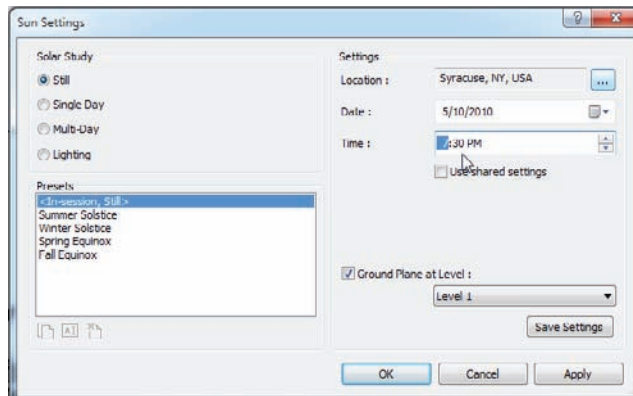

FIGURE 19.15 Changing the scene to dusk
11. Make sure Solar Study is set to Still, and change the time to 7:30 PM, as shown in Figure 19.15.